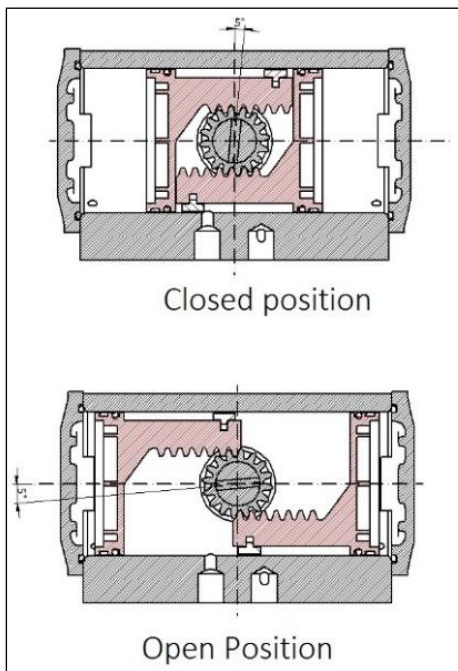

Fig No.30
- e) Temporarily install the local position indicator onto the pinion (02) to determine whether the correct stroke is obtained. Ensure that the arrow in the local position indicator will rotate a minimum of 5° beyond the 90° vertical centreline of the actuator body (01) and a minimum of 5° beyond the 0° horizontal centreline of the actuator body as shown in fig No.30 If the proper stroke is not obtained, remove the pistons and repeat from step 4.4 C). Once proper stroke is obtained, remove the local position indicator.